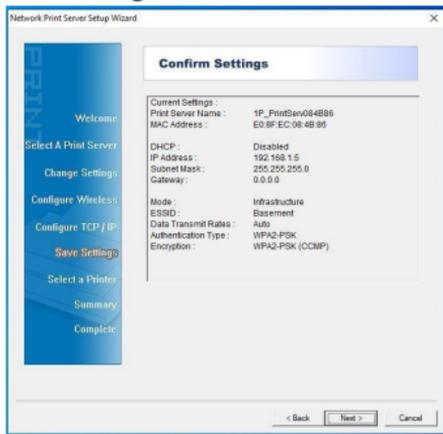

Figure 8
10. At the **Confirm Settings** screen, check for any configuration errors. Select **Next**. (Figure 8)